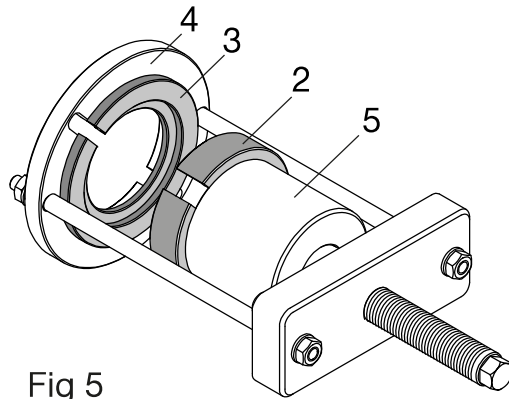

Fig 5
- The new bush must be positioned correctly in all directions; for this reason, ensure the new bush is positioned in the same direction as the old bush came out from. The use of the stepped split ring (2) ensures the new bush is inserted to the correct depth.
- To fit the new bush, first assemble the tool components shown in Fig 5 and ensure the force screw is clean and well lubricated.